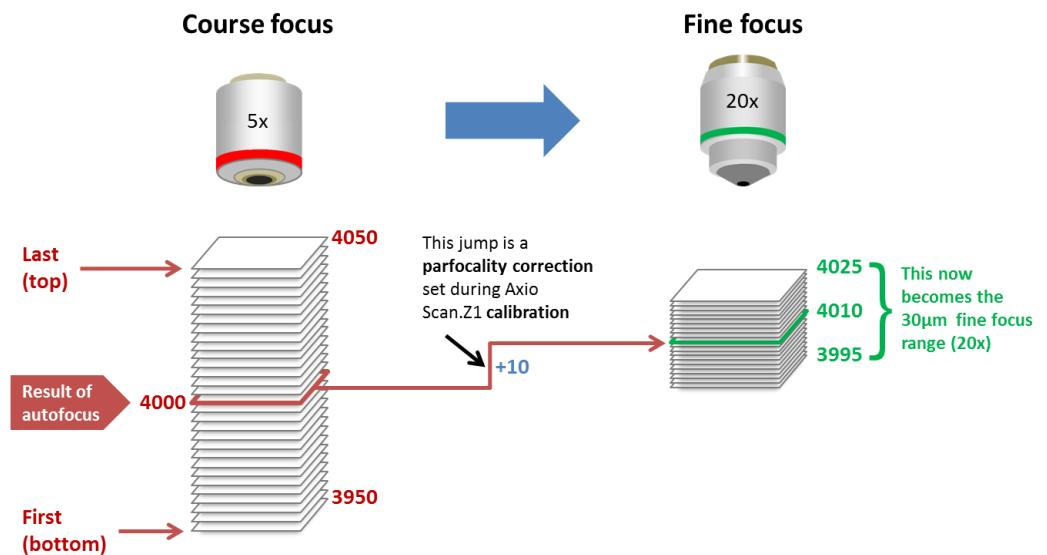

Figure 18 Relationship between course and fine focus range
**Figure 18** shows **course** focus as a range of points between two defined values. **Fine focus** is different. Fine focus is a range that is not defined by a top and bottom, but by the position of its **middle** or **centre**. The range is then set by defining a travel distance, for example 30um. The result is a range that is 15um above and 15 micron below the centre point. In figure 18 this is shown in green as the range of 30 centred around 4010um.